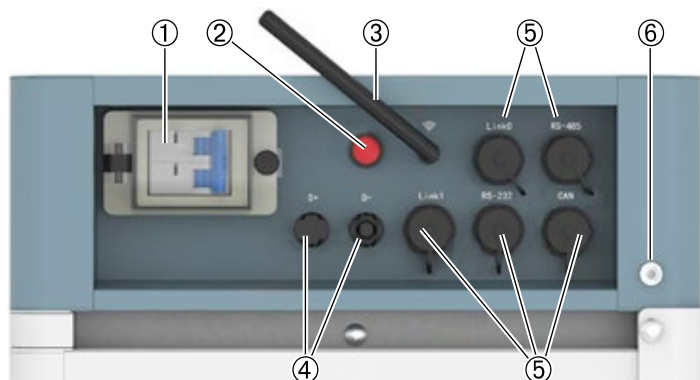

Fig. 3.14 - Control Module FC0500-40S-V2
4. Press start button (2, Fig. 3.14) for at least 5 seconds or until buzzer rings. Battery takes 10-30s for self-checking.
In this case, press the Start button (2, Fig. 3.14) for at least 10s, till the Status lighting Blue and fast flashing, then battery will black start to support inverter and after inverter turned on and set up communication, then BMS is ready for work.